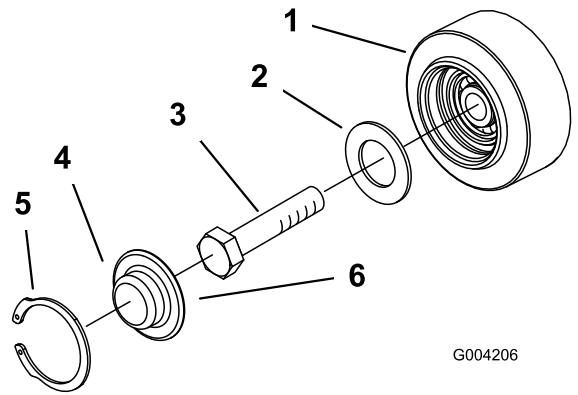

Figure 53
3. Remove the snap ring and cap from a road wheel (Figure 53).
4. Check the grease under the cap and around the gasket (Figure 53). If it is dirty, gritty, or depleted, clean out all of the grease, replace the gasket, and add new grease.